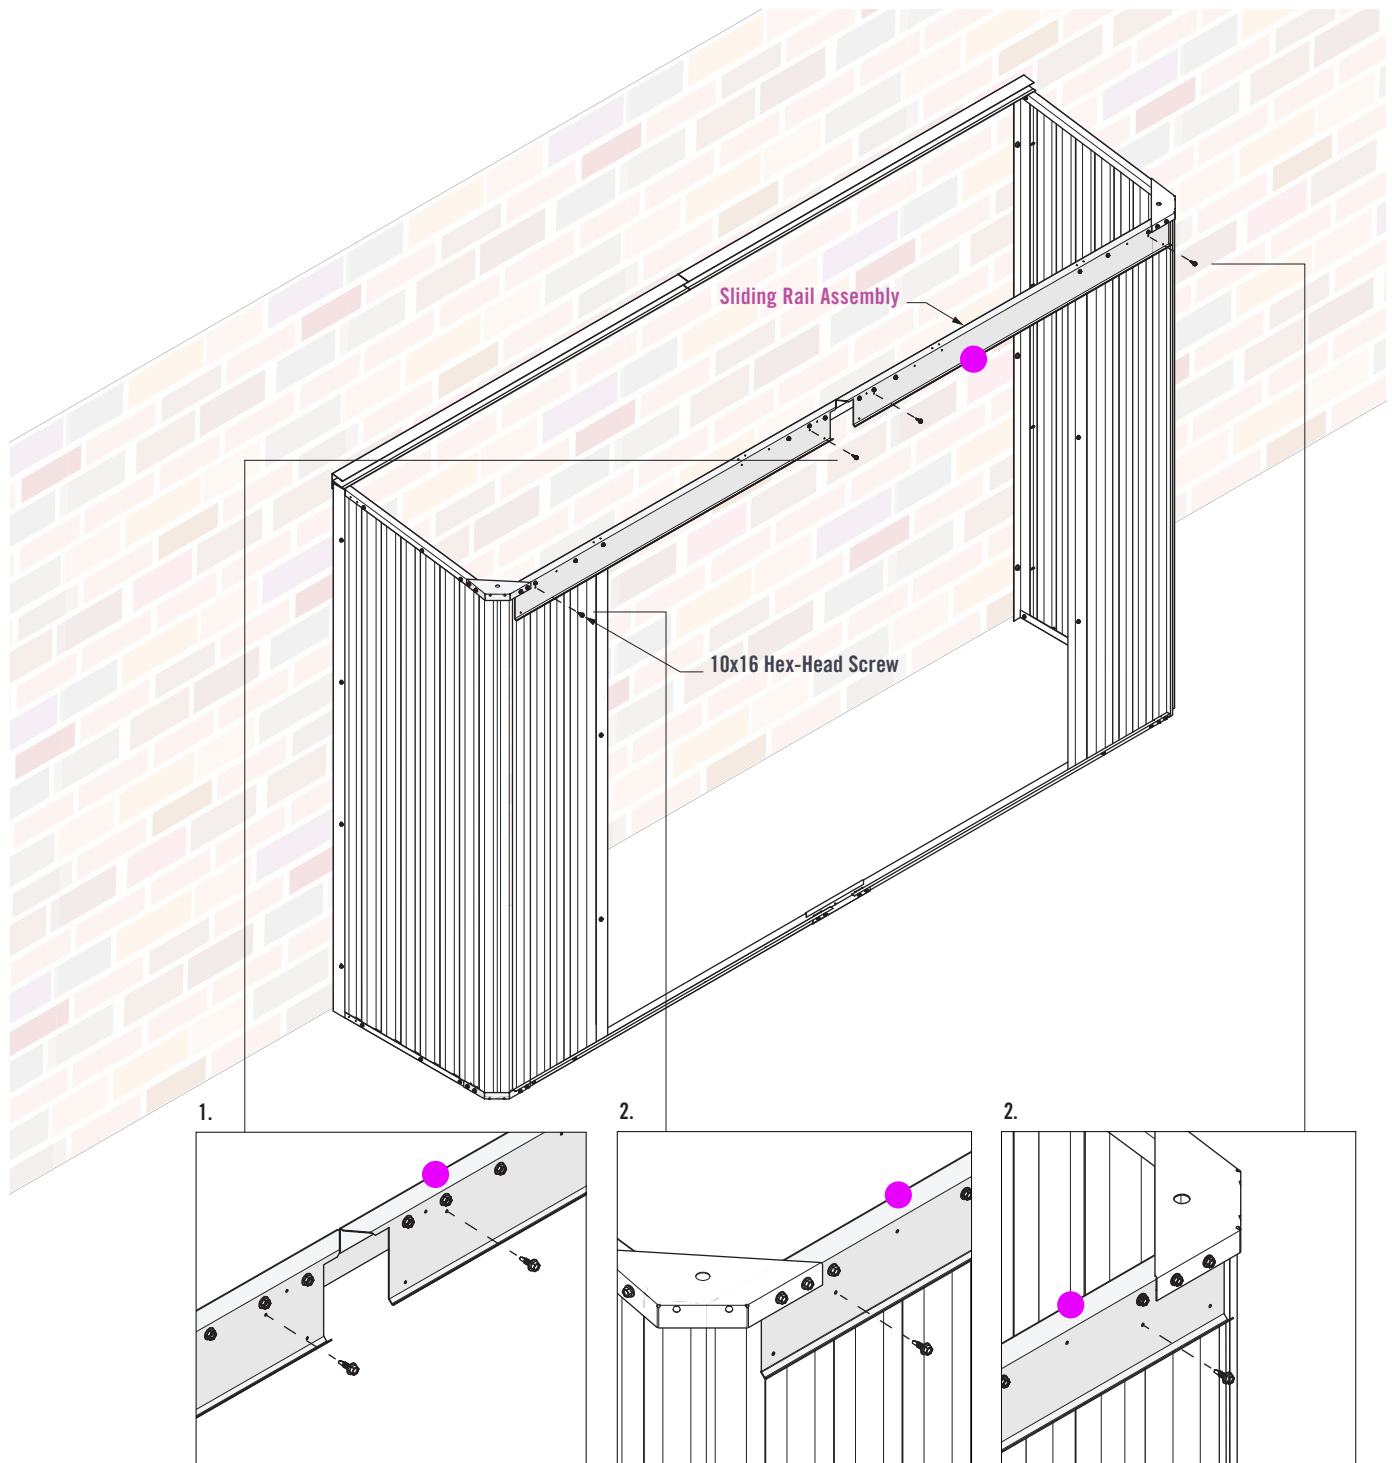

FIGURE 9.2
1. Fasten two 10x16 Hex-Head Screws through the pilot holes at the middle of the **Sliding Rail Assembly** (Figure 9.2).
2. Fasten two 10x16 Hex-Head Screws through the pilot holes at the end of the **Sliding Rail Assembly** (Figure 9.2).